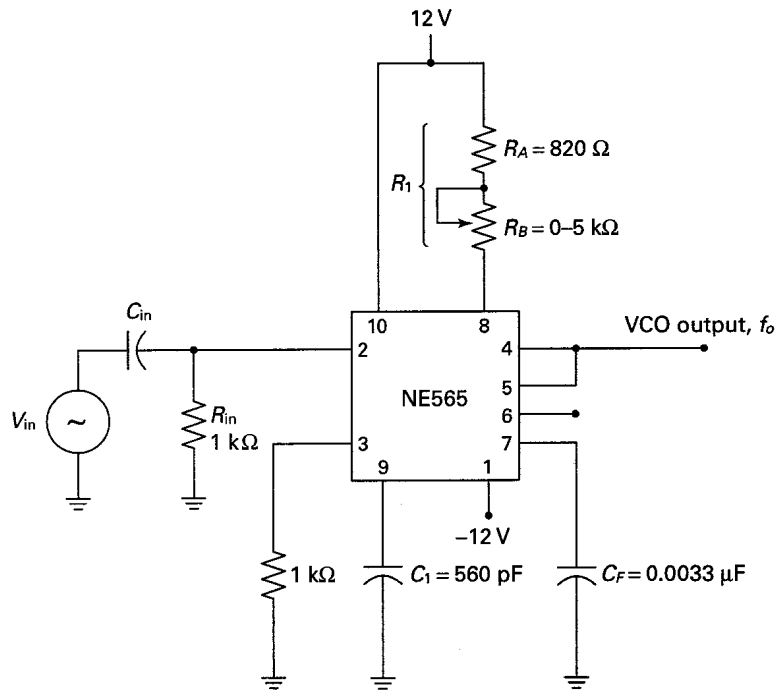

Fig. 2-28
- 2.17** Refer to Fig. 2-28. If  $R_B$  is adjusted to 262.25  $\Omega$ , calculate the following: (a)  $f_N$ , (b) the cutoff frequency  $f_c$  of the low-pass filter, (c) the lock-range width  $B_L$ , (d) the capture-range width  $B_C$ , (e) the minimum value for  $C_1$ .
- 2.18** In Fig. 2-28, assume that  $C_F$  is changed to 1000 pF. Recalculate the capture range  $B_C$ . (Recall that the lock-range width  $B_L$  was calculated to be 333.33 kHz.)
- 2.19** Refer to Fig. 2-28. To what value must the resistance  $R_B$  be adjusted to provide a natural frequency  $f_N$  of 100 kHz? What is the lock-range width  $B_L$  for  $f_N = 100$  kHz?
**2.20** In Fig. 2-28, assume  $f_i = f_N$ . Calculate the dc voltage available at Pin 6.